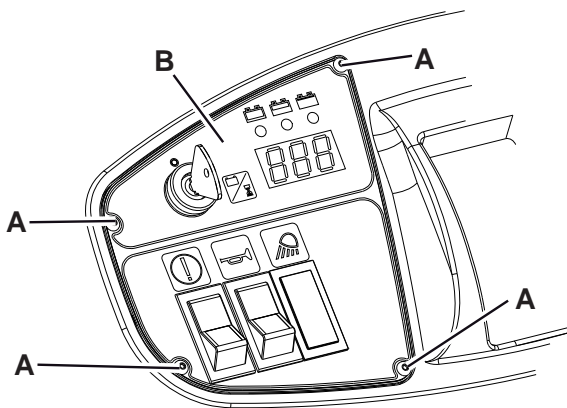

Figure 26
8. Ensure that the battery connector (25) is disconnected.
9. Remove the support rod (36) and close the hood (22).
10. Remove the screws (A, Fig. 26) and carefully remove the right control panel (B).
12. Carefully install the control panel (B, Fig. 26) and the relevant screws (A).
13. Open the hood (22), connect the battery connector (25) and close the hood (22).
15. Engage the parking brake with the pedal (75) and the lever (68).
16. Remove the ignition key (67).
17. Open the hood (22) and fasten it with the support rod (36).
18. Disconnect the battery connector (25).
19. Disconnect the battery wiring harness (23).
21. Check that WET battery caps (24) are closed, to prevent the highly corrosive acid from leaking out of the batteries.